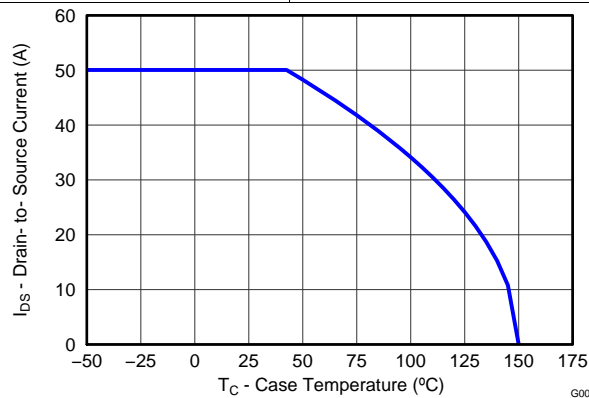

Figure 12. Maximum Drain Current vs Temperature
• Updated <a href="#">Figure 12</a> to show a 50-A package current limit .....	5